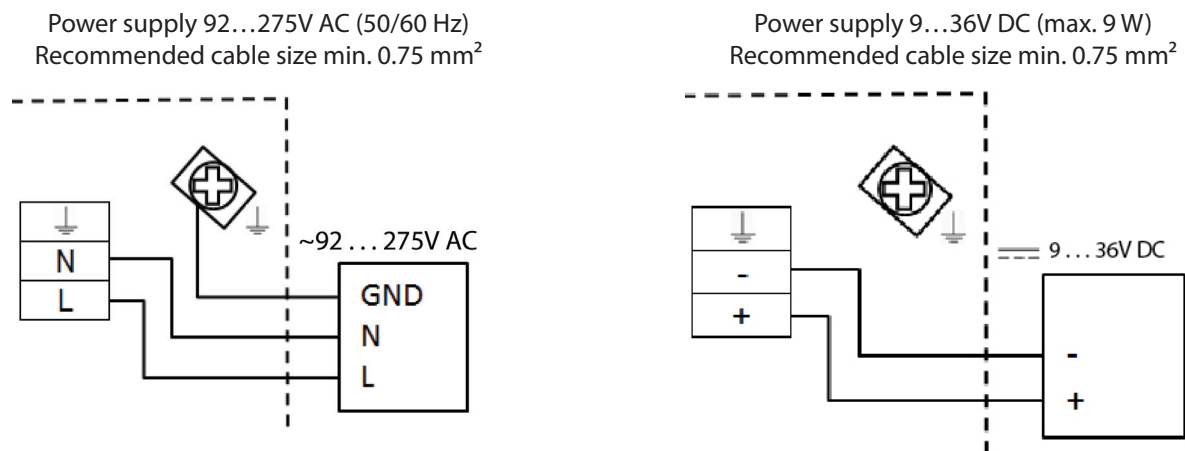

Figure 20: Auxiliary power connection
3. Connect as shown in Figure 20.